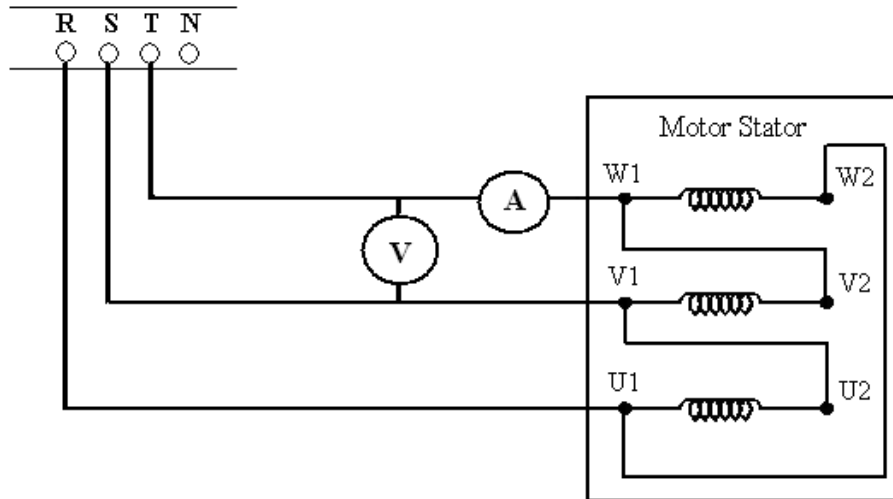

Figure 2 Induction Motor Stator
2. Connect the induction motor as shown in **Figure 2**. The stator is delta connected. The three-phase variable AC supply is connected to the induction motor stator.